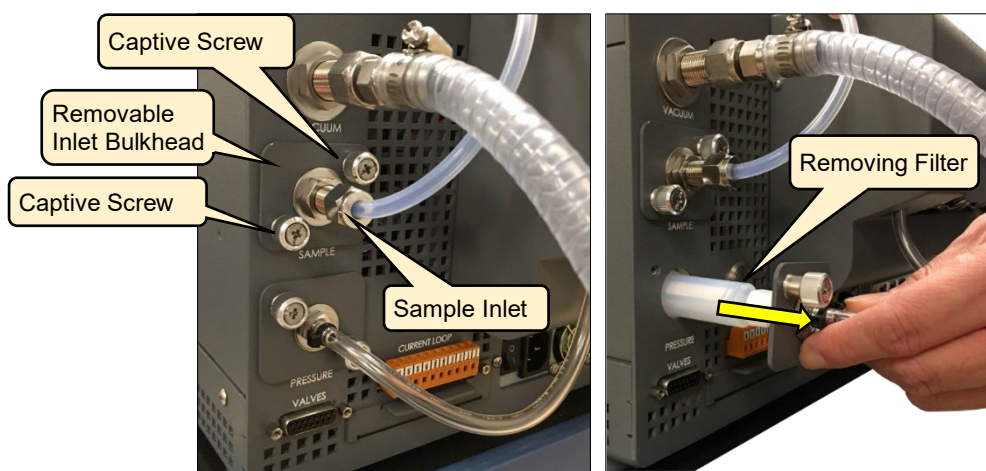

Figure 67: Sample Inlet Port
1. Release the captive screws (Figure 67) and slide the filter assembly out of the analyzer filter bay. There may be some resistance as the filter is removed. This is due to the frictional resistance of the male quick-disconnect O-rings within the female receptacle.